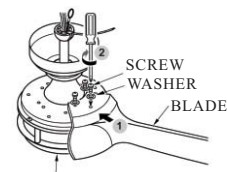

FIG.3
1. Attach each blade assembly to the fan body using the blade screws. Tighten them securely (see Fig.3)
Make sure the "+" "-" sign is correct. (FIG.3)